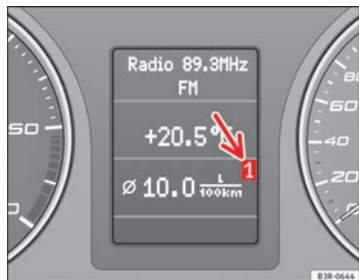

Fig. 59 Onboard computer: memory 1
The numbers in the display ⇒ Fig. 59 indicate which of the two memories is currently in use. A **1** means that the display is showing the information in the single journey memory (onboard computer 1). A **2** means that the display is showing the information in the total journey memory (onboard computer 2).
- Press the reset button **(B)** repeatedly until the onboard computer (memory 1 or 2) ⇒ Fig. 59 is displayed.